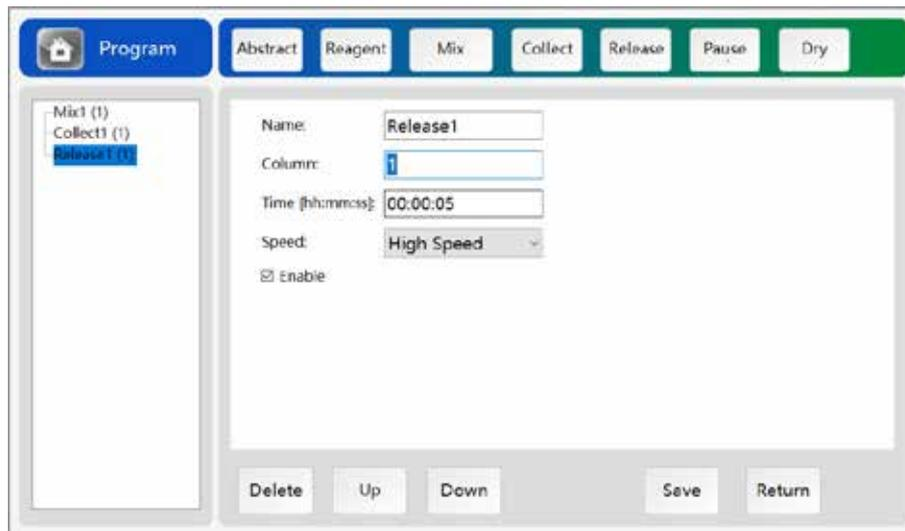

Figure 4-13 Pause
**Pause:** This step is used to pause the ongoing process, mainly used to add reagents or samples during the extraction process, as shown in Figure 4-13.